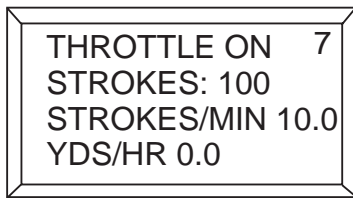

Figure 30. Strokes Per Minute Display
4. Scroll through the **digital readout screen** with the scroll switch to go to screen 7 (Figure 30). This screen will show the volume in strokes per minute.